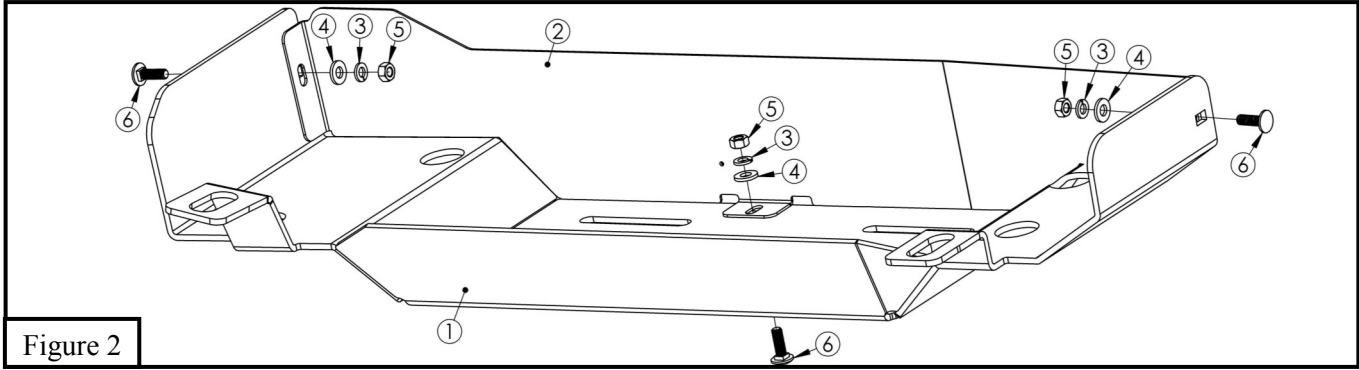

Figure 2
3. Locate the Skid Plate (Item 1) and the Front Skid Plate Cover (Item 2) and secure using the provided M8 hardware (Items 3-6). Refer to **Figure 2**.